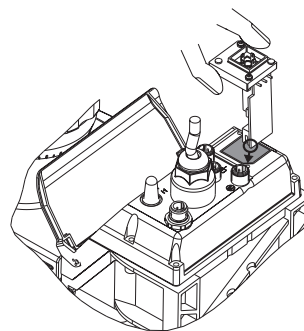

Fig. 18
- ▶ Hold the relay component with your right hand gripping the left and right hand edges of the relay cover, and tilt the front end slightly to the left (see fig. 18)